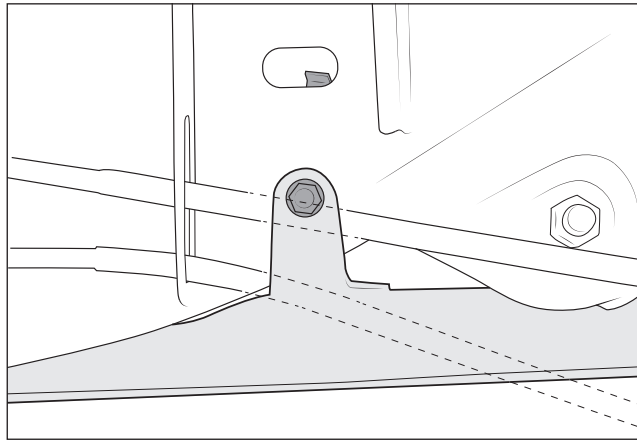

Figure 3
2. Insert flag nut into frame rail and loosely secure using an M10 Hex Bolt (fig. 3).